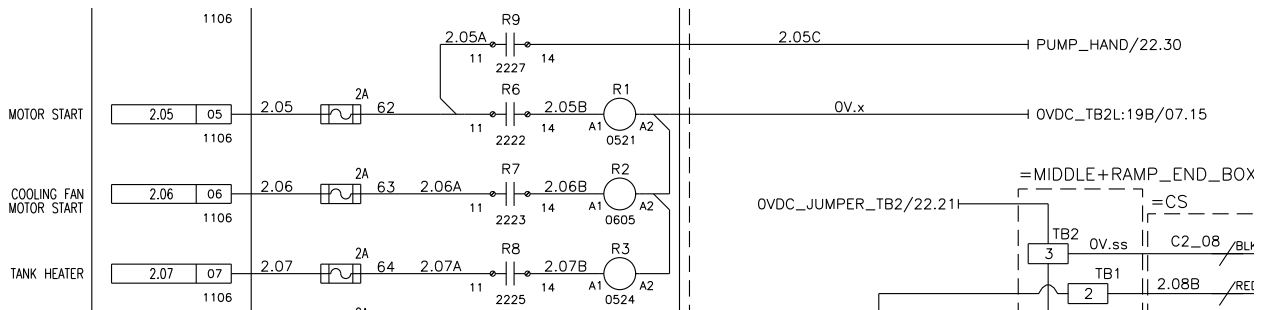

Figure 9: Inset of PLC Slot 1, Digital Output 1 Showing Switch Side of New Relays R6, R7, R8, R9
- Disconnect wire 2.05A from PUMP_HAND, and connect it to terminal 11 of relay R9. Connect terminal 14 of relay R9 to PUMP_HAND. Assign wire name 2.05C (Figure 9, page 9).
- Disconnect wire 2.05A from terminal A1 of relay R1, and connect it to terminal 11 of relay R6. Connect terminal 14 of relay R6 to terminal A1 of relay R1. Assign wire name 2.05B (Figure 9, page 9).
13. Disconnect wire 2.06A from terminal A1 of relay R2, and connect it to terminal 11 of relay R7. Connect terminal 14 of relay R7 to terminal A1 of relay R2. Assign wire name 2.06B (Figure 9, page 9).
14. Disconnect wire 2.07A from terminal A1 of relay R3, and connect it to terminal 11 of relay R8. Connect terminal 14 of relay R8 to terminal A1 of relay R3. Assign wire name 2.07B (Figure 9, page 9).